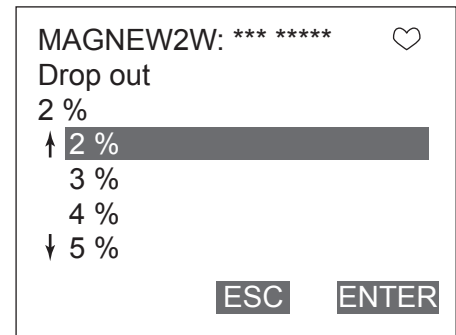

Figure 7-26
Figure 7-26 will then be displayed.
2. Once the display as shown in Figure 7-26 appears, move the arrow key up or down to select drop-out value. Value can be specified from 0% to 10%. After making a selection, press F4(ENTER). If F3 (ESC) is pressed here, the selection will be canceled and the display will return to the Noise immunity menu.